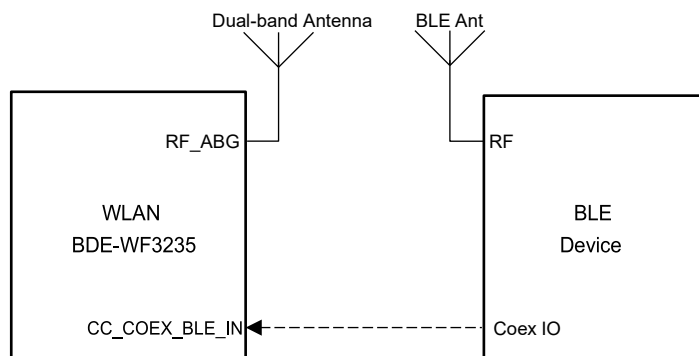

Figure 6-1. Dual-Antenna Coexistence Mode Block Diagram
- Dual-band Wi-Fi (see Figure 6-1)
Figure 6-1 shows the dual antenna implementation of a complete Bluetooth® low energy and WLAN coexistence network with the WLAN operating on either a 2.4- or a 5 GHz band. Note in this implementation a Coex switch is not required and only a single GPIO from the BLE device to the BDE-WF3235 device is needed.